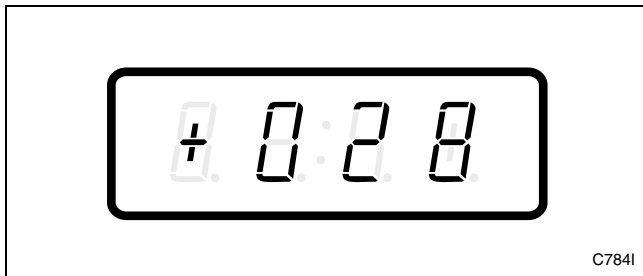

Figure 110
3. Press the LOW TEMP (+) or the NO HEAT (-) keypad to scroll through the programmable options until “+028” appears in the VFD. Refer to *Figure 110*.